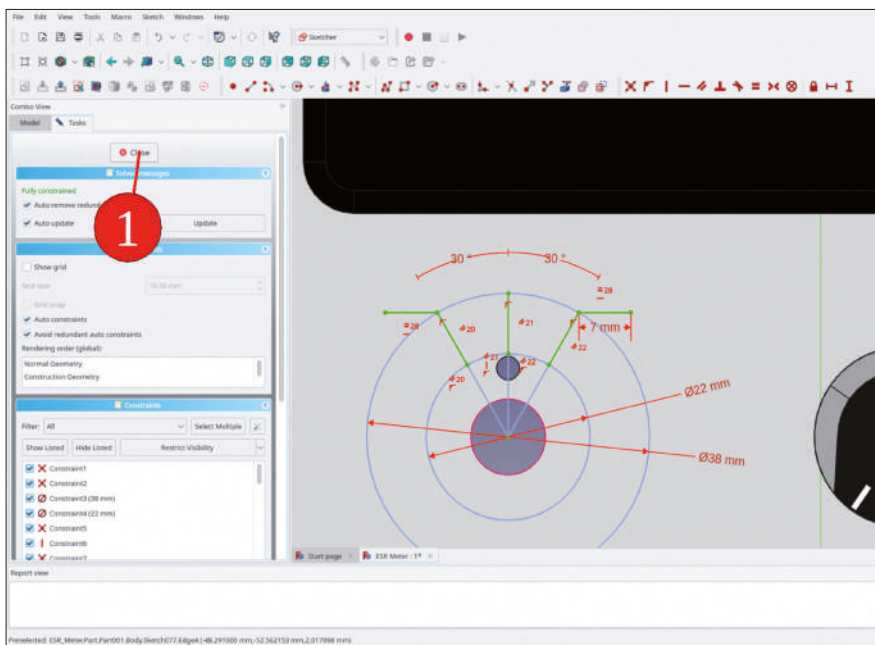

Figure 8-14
18. Now, the sketch appears bright green, and the solver says: 'Fully Constrained' – done! (Figure 8-14). Close the sketch.